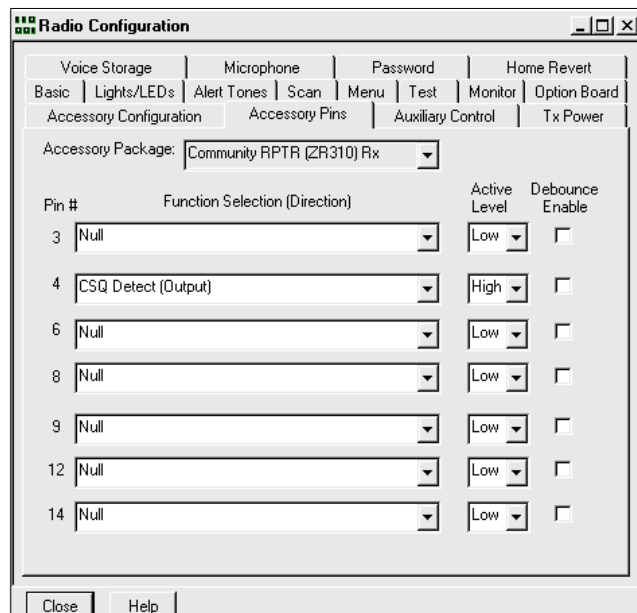

Figure 9-2. Radio Configuration, Accessory Pins, Receive Radio
7. Click the “Accessory Package” dropdown arrow button. Select “Community RPTR (ZR310) Rx”. Verify that pin 4 is “CSQ Detect (Output)”, Active Level “High”. Your screen should appear similar to Figure 9-2.